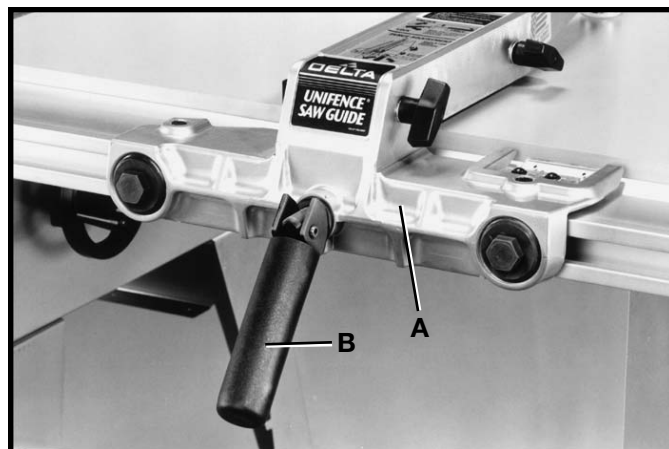

Fig. 73
4. Lock fence body (A) to the guide rail by pushing down on handle (B) as shown in Fig. 73.